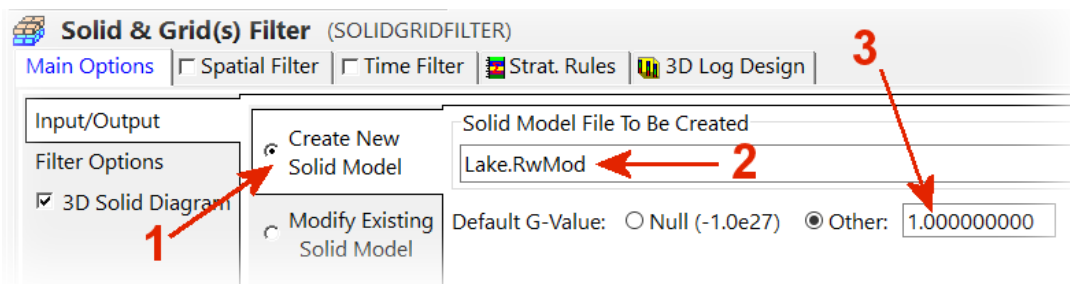

Figure 14
- Within the *Solid & Grid(s) Filter* program menu, select the *Input / Output* tab and (1) select the *Create New Solid Model* option, (2) set the name of the *Solid Model* to "Lake.RwMod", and (3) set the *Default G-Value* to 1.0 (Figure 14).